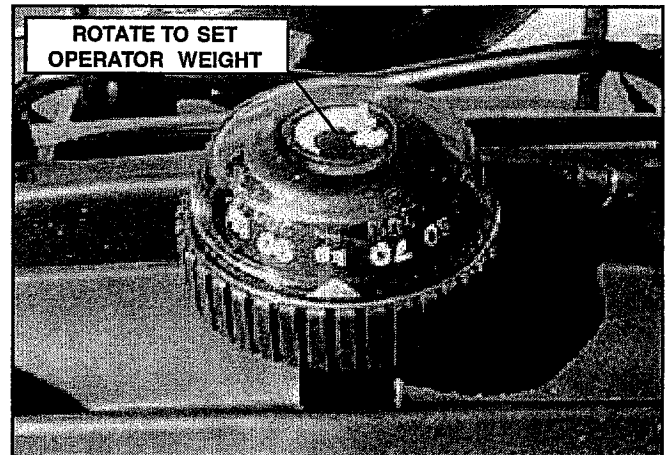

FIGURE 2.45
a. Operator Weight Adjustment- FIGURE 2.45